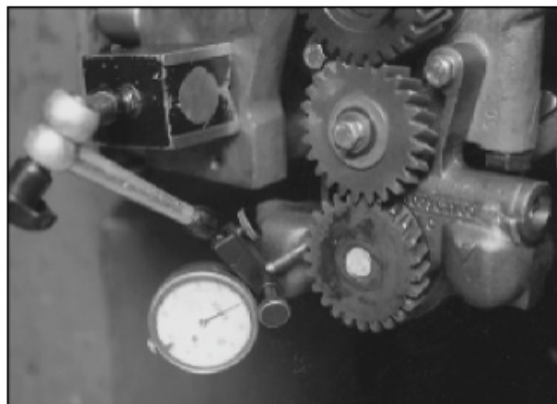

Figure 27
- Set dial gauge pointer on a tooth of the gear required to be checked (Figure 27).
- Engage the gear to one side and set the dial to zero (0).